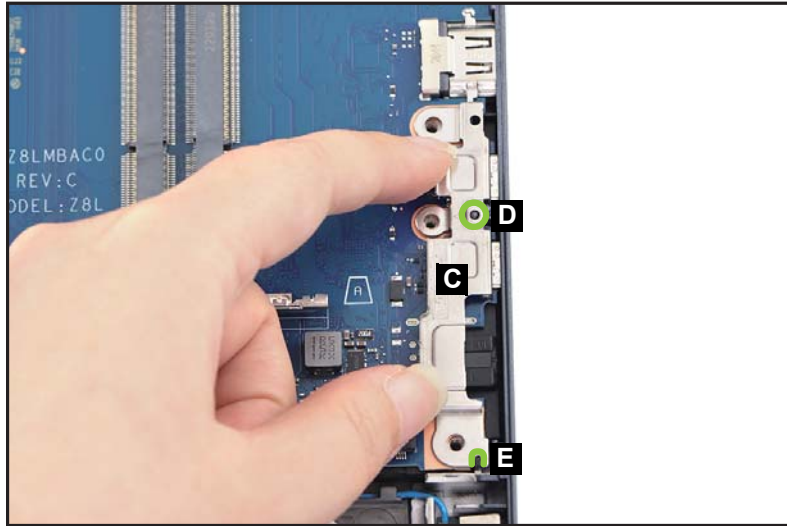

Figure 1-41. Mainboard Removal
3. Release the I/O bracket (C) from the guide pin (D) and guide tab (E) (Figure 1-41). Then remove the bracket.